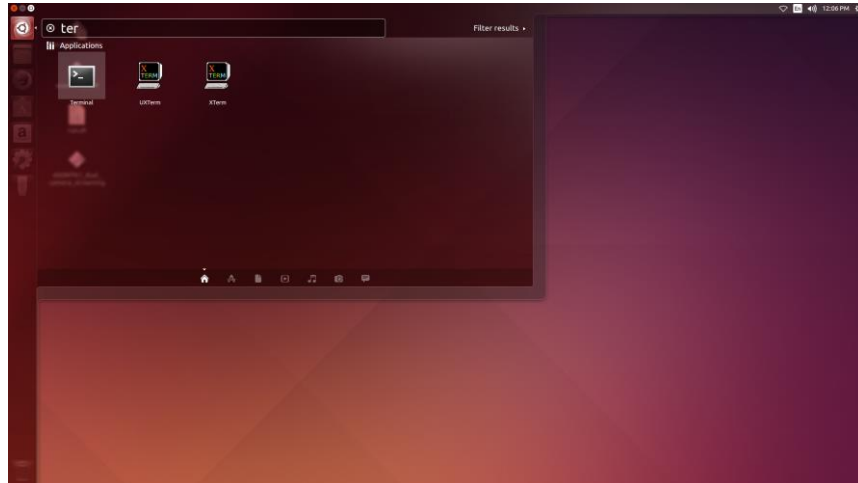

Figure 6: Ubuntu Desktop where Terminal application is launched
- Open the terminal application by clicking on the dash board icon on the top left corner and typing 'terminal' in that search panel as shown in the figure 6 below